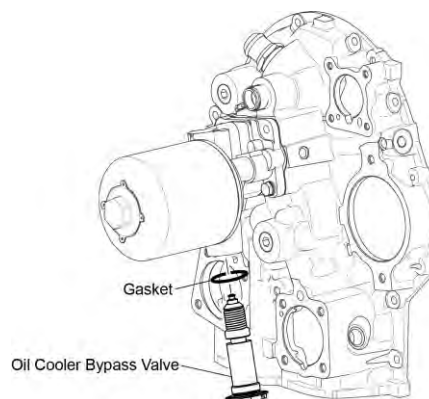

Figure 9
On engines with an oil filter (Figure 9). Remove the thermostatic oil cooler bypass valve from the oil filter base. Discard the gasket.
On engines with an oil filter (Figure 9):
- B. Install the thermostatic oil cooler bypass valve with a new gasket on the oil filter base as shown in Figure 9.